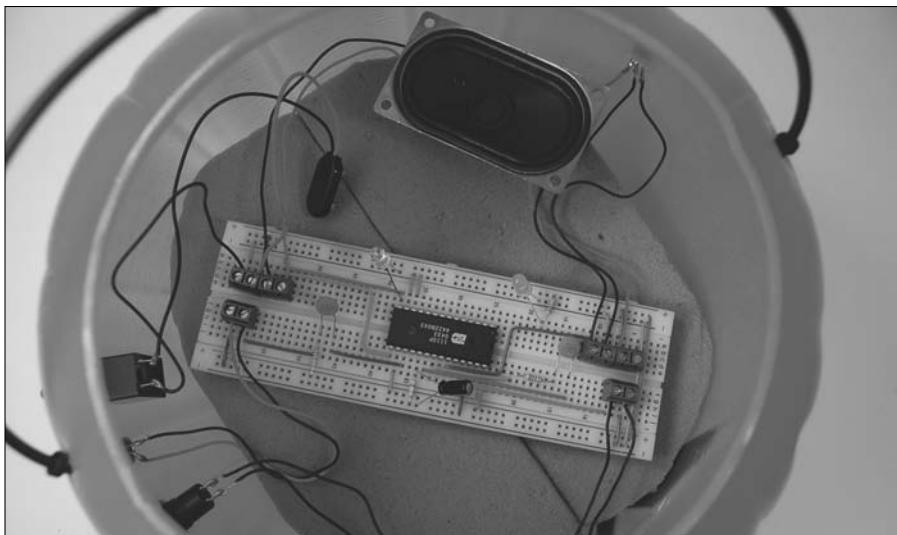

Figure 9-27:
15. Place the breadboard and speaker on the foam. Then slip the on/off switch, microphone, and IR detector through the holes you cut, as shown in Figure 9-27.
16. **Tuck the wires off to the side; refer to Figure 9-27.**
17. **Slip the record switch through the hole you cut for it and secure it with the supplied nut; refer to Figure 9-27.**